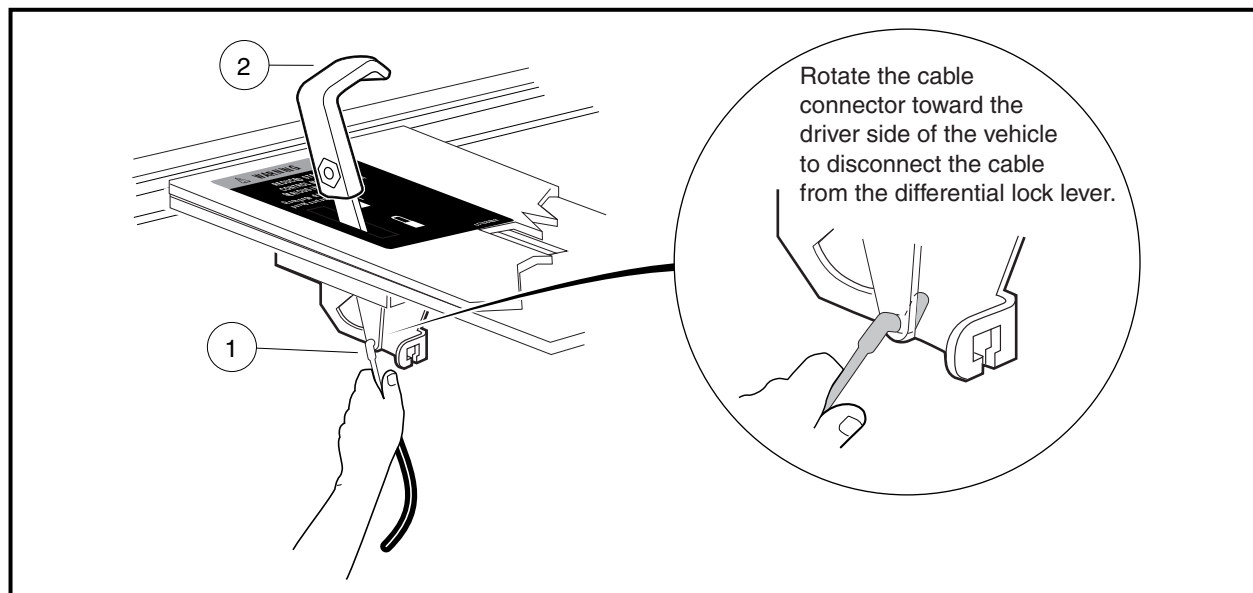

Figure 16-13 Differential Lock Cable Removal
5.3. Rotate the cable connector toward the driver side of the vehicle to disconnect the cable from the differential lock lever (1) (**Figure 16-13, Page 16-8**).